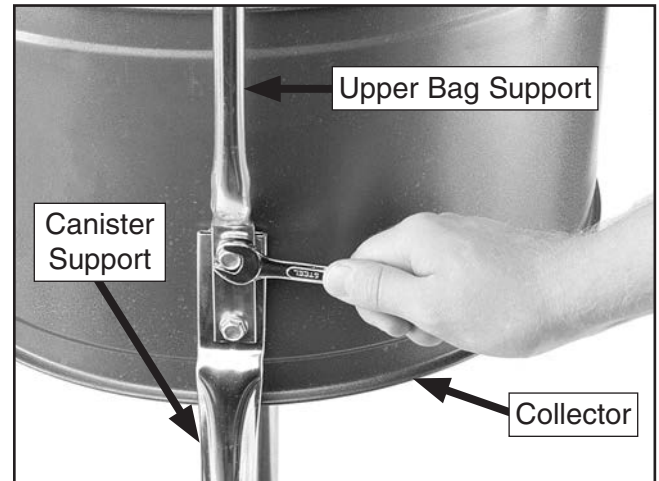

Figure 17. Mounting collector to brackets.
G1030Z2/G1030Z2P only: Place the upper bag support over the canister support and secure it with (2) $\frac{5}{16}$ "-18 x $\frac{1}{2}$ " flange bolts, as shown in **Figure 17**.
- c. Position the metal belt clamp around the bottom of the canister and latch it so it evenly compresses against the foam strip (see **Figure 17**).